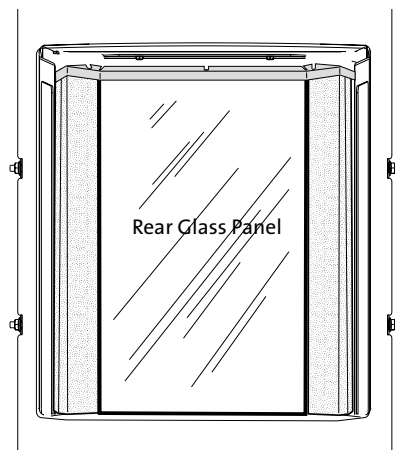

Figure 26. Install Rear Glass Panel.
3. **Orient the rear panel, smooth side out, textured side in.** Rest the bottom of the panel on the burner skirt, centered against the back wall. See fig. 26.